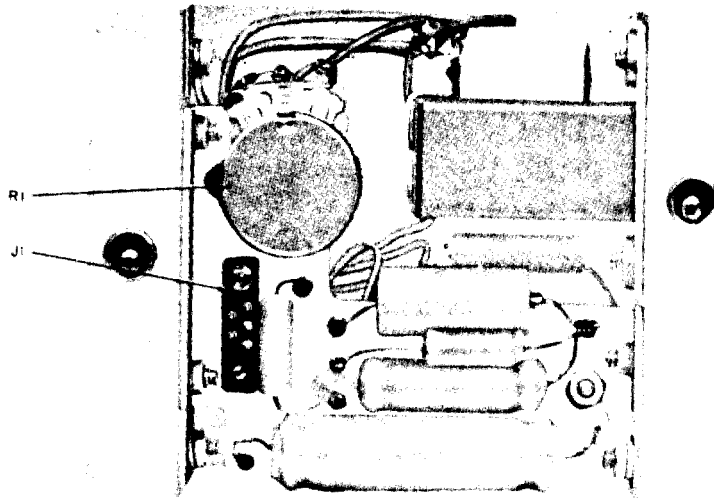

Figure 7. Static Power Inverter CV-2128/ARN-83, parts location.
- (g) Adjust potentiometer R1 (see fig 7 for location) in Static Power Inverter CV-2128/ARN-83 until frequency meter indicates 400 cps. (R)